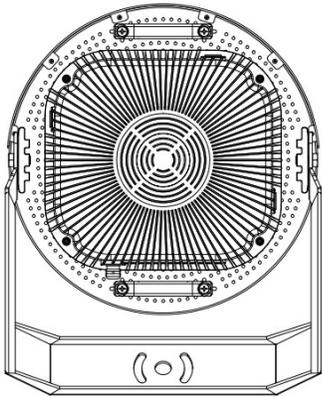
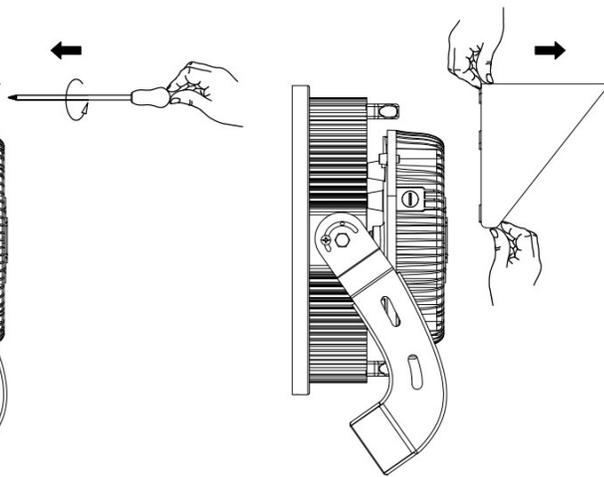

FIG.7
FIG9
- 1) Dismount 6 pcs screws which are used to fix shroud onto the fixture (anticlockwise direction), take the shroud down. See FIG.7 to FIG.9: